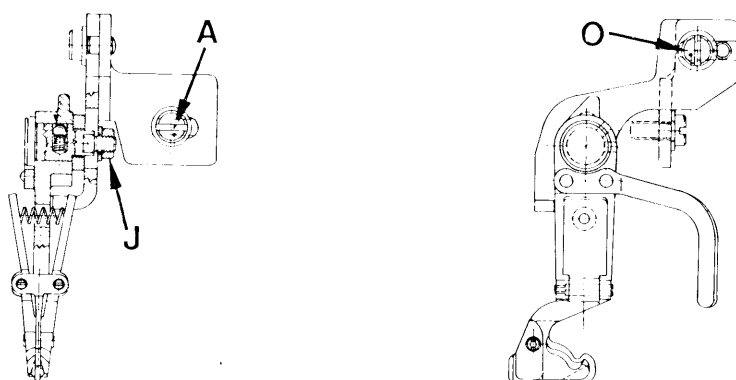

Fig. 27
- Adjustment of the fixed guide height is obtained through nut J and by vertically moving the guide until the required height is obtained (fig. 27).